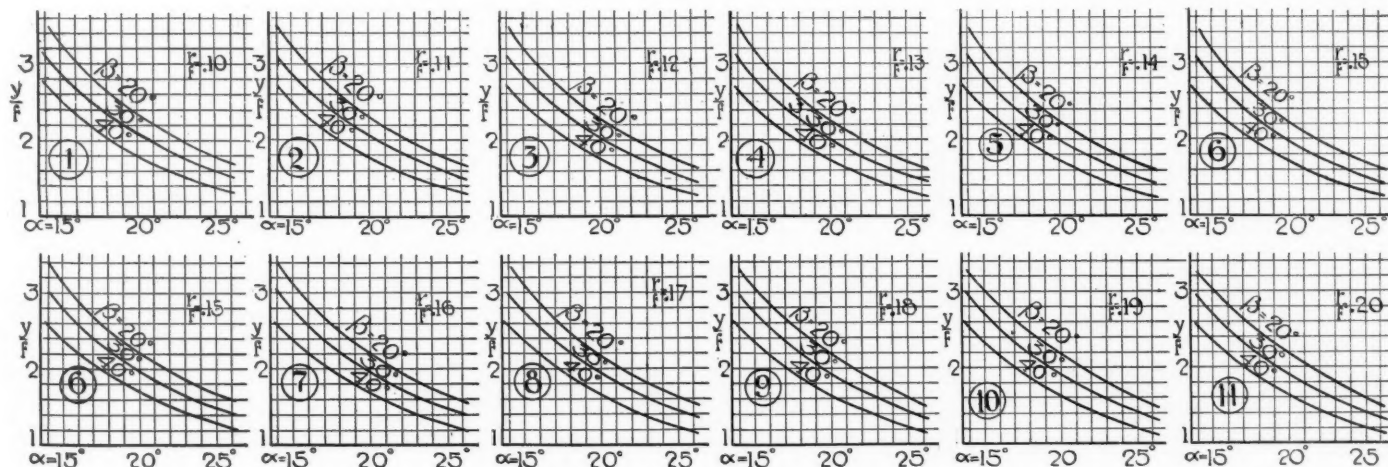

Fig. 3—Angular scale for use with curves 12-22
designs can be readily investigated, or new designs evolved with equal ease. No cutting and trying are needed. The curves 12-22 inclusive, Fig. 3, furnish the solutions of the problems. They show the loci of the intersections of the produced steering wheel axes for a wide range of design proportions. They also show the angular errors involved in the various designs. By noting how a given locus lies with respect to the produced rear axle center line the value of the proportions which give that locus is quite evident.
It is at once evident that the verticals are needless if we project the horizontal angular scale on to the curves. It is further evident that the curves may be made vertical lines if the vertical components of their angular scales are not altered. This brings us to the vertical scales $\beta = 20^\circ, \beta = 30^\circ, \beta = 40^\circ$, shown in Fig. 3. These angular scales may be applied to any one of the sets of curves (12) to (22) unchanged, because they are not
The range of proportions which can be studied with reference to the curves 12-22, Fig. 3, is believed by the writer to include the majority of cases of passenger cars with tie rods placed behind the front axle.